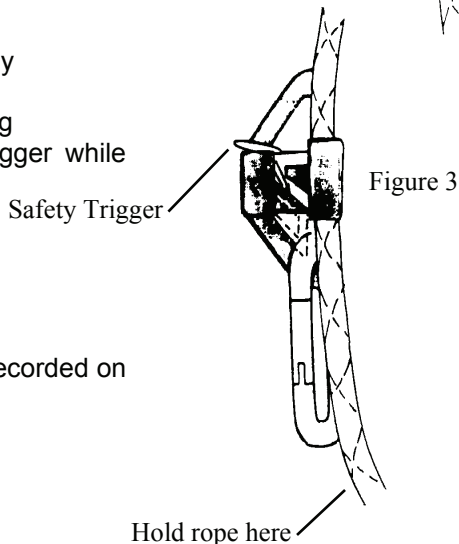

Figure 3
3. To move the Height Adjuster up, hold pressure on the rope below the body and push up on the Height Adjuster to the desired height (See figure 3).
4. To move the Height Adjuster down, release the lock on the cam by holding the rope below the Height Adjuster, and pushing up on the safety trigger while putting upward pressure on the Height Adjuster. This will unlock the cam and allow you to move the Height Adjuster to the desired height (See figure 3).